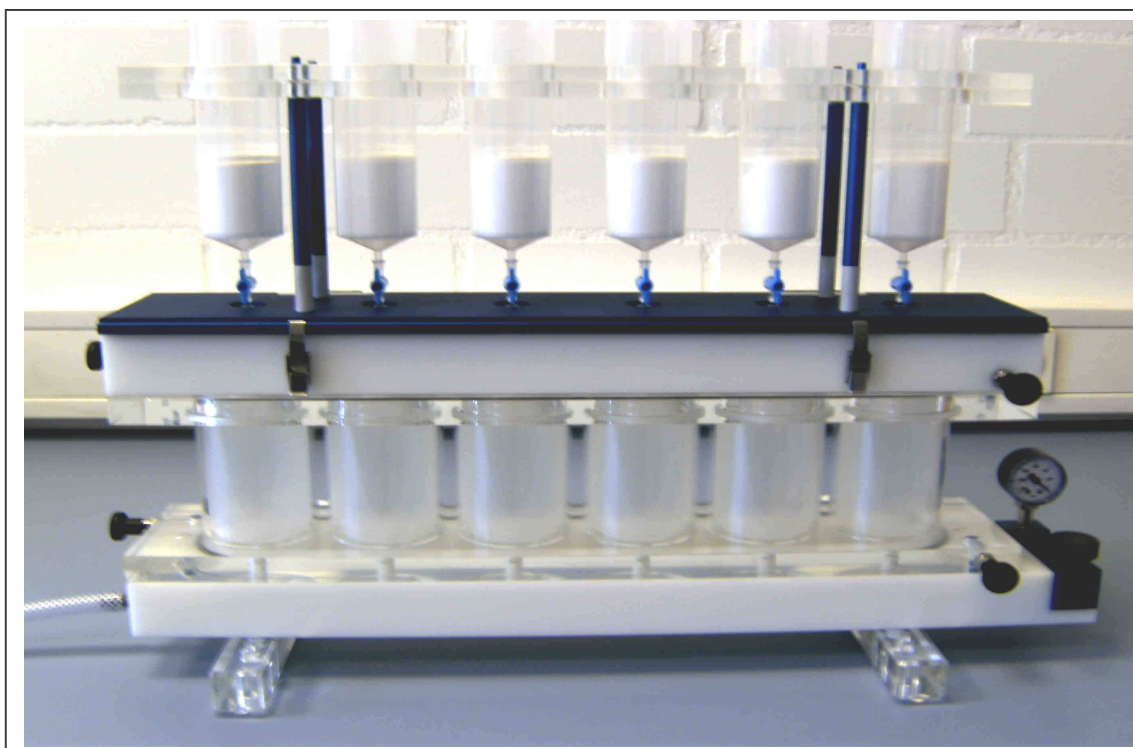

Figure 16 QIAvac HiSpeed LS ready for elution of QIAGEN HiSpeed Plasmid Giga column
3. Remove the connected component 2 and component 3 from the parking position and place it onto component 1(see Figure 15). Connect component 1 with component 3 with both snap-on connections (see figure 16)